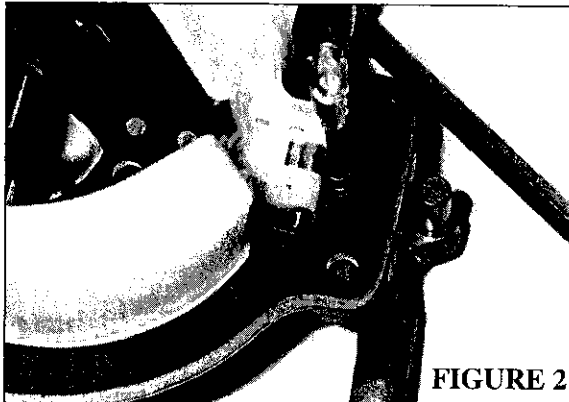

FIGURE 2
- 3.4) Place the float and float valve assembly into the float bracket with the float valve in the float valve seat, as shown in Figure 2.